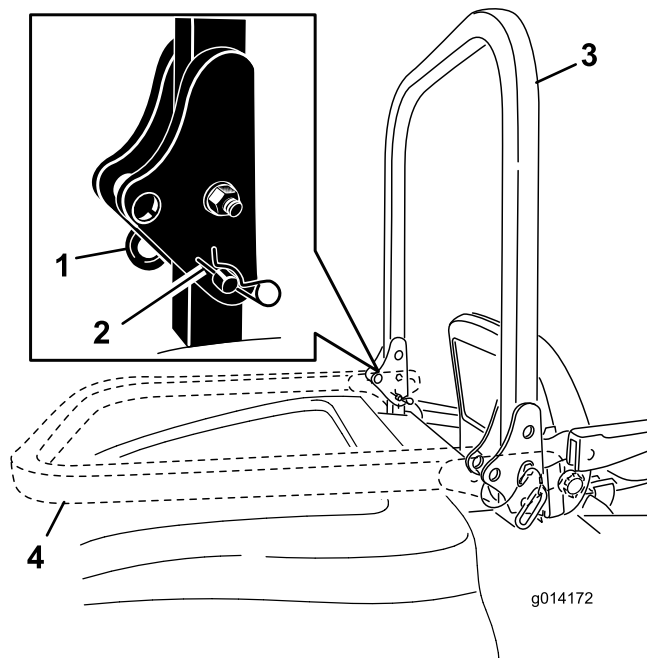

Figure 10
1. To lower the roll bar, remove the hairpin cotters, push the roll bar forward against the springs, and remove the 2 pins (Figure 10).
4. To raise the roll bar, remove the hairpin cotter pins and remove the two pins (Figure 10).
5. Raise the roll bar to the upright position and install the two pins and secure them with the hairpin cotter pins (Figure 10).